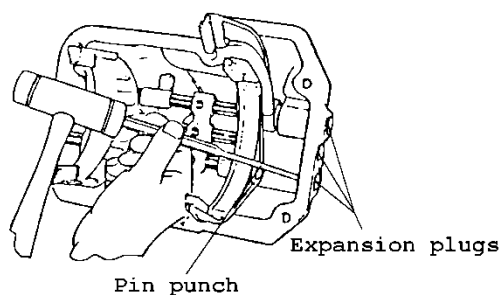

FIG. 15
- Remove the expansion plugs from the shift housing (Fig. 15).